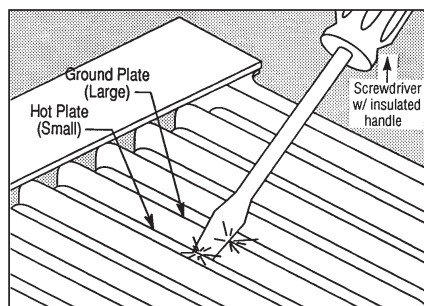

Figure 12
A visual of a module could identify problems such as moderate to extreme contaminant build up to the unicells even though the indicator lights are illuminated. This will be helpful in scheduling a manual cleaning of the components, refer Section 6.2. To check the condition of the unicells, place the SGN off line. Open the module door and perform the grounding procedure, refer to Figures 12 and 13, inspect the condition of the unicells, filters, door feed-thru insulators and interior of the cabinet. Experience will dictate whether contaminant build-up is excessive. Contaminant build up will decrease high voltage to the ionizer and collector cell circuit. When accessing a module, always clean the two door feed-thru insulators.
2. Open power pack enclosure lid cover, perform grounding procedure refer Figures 12 and 13,
Risk of electrical shock. The high voltage circuits to the ionizer and collector should be grounded before removing the power pack, high voltage wires, door feed through insulators and unicell(s). The grounding procedure can be accomplished by waiting one minute after placing the toggle switch in off position or by referring to Figures 12 and 13. An internal resistor within the power pack discharges the residual high voltage. The grounding procedure statement is not identified within the troubleshooting steps but should be performed. The power pack total current output is limited to a maximum of 5 milliamps to assure personnel safety.